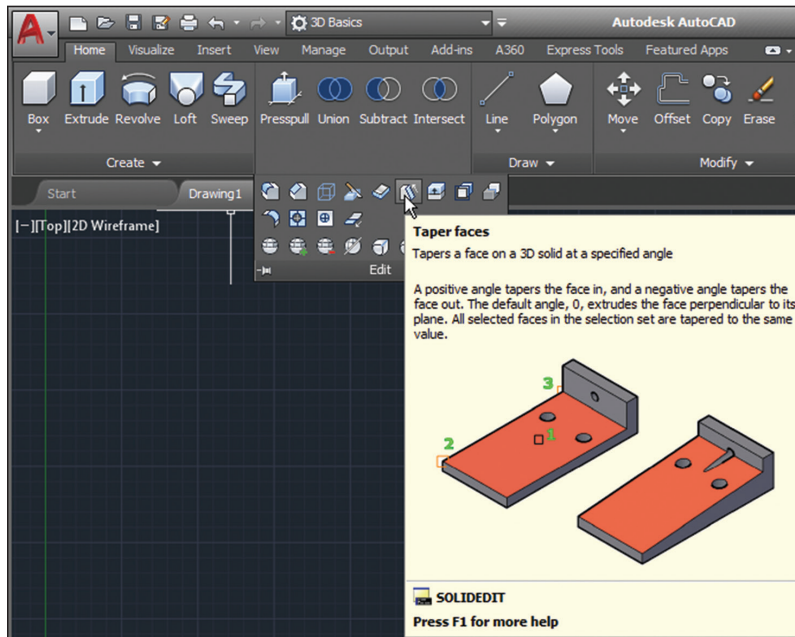

FIGURE 1.12 Tooltip and illustration
6. Click the Edit button at the bottom of the Edit panel to reveal additional tools. Hover the mouse over one of the tools to display a tooltip that identifies the tool and describes its function. Holding the cursor a while longer reveals an image that illustrates what the tool does (see Figure 1.12).
7. Observe that the bottom of the tooltip shown in Figure 1.12 reveals the command name (SOLIDEDIT in this case). The ribbon, menus, toolbars, and palettes are all graphical alternatives to typing commands.